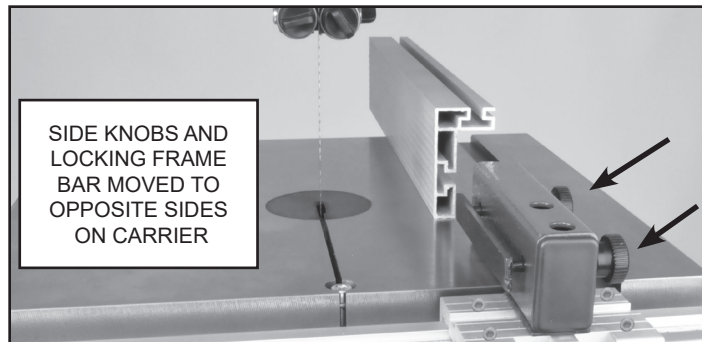

FIGURE 34
3. Fully unscrew the side knobs from the frame bar and reassemble the parts on the opposite, left side of the carrier. Then rotate the fence 180° end-to-end and slide it back onto the carrier. FIG. 34 & 35.